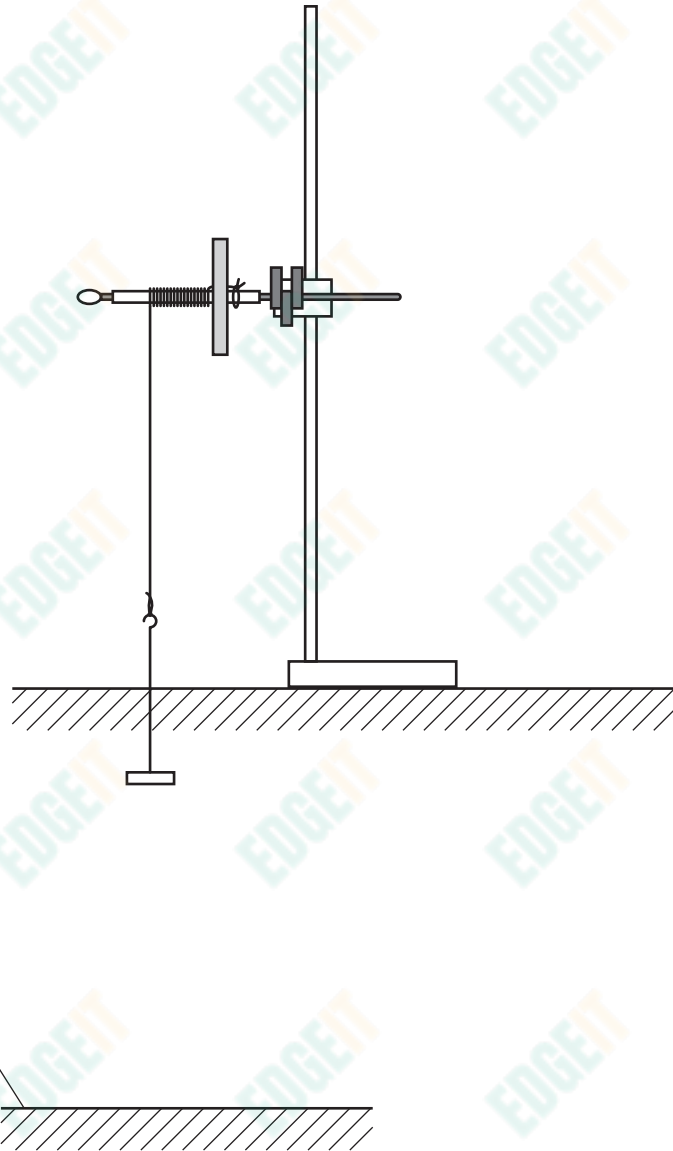

Fig. 2.3
- Rotate the slotted mass and tube 16 times so that the string is wound around the tube, as shown in Fig. 2.3.